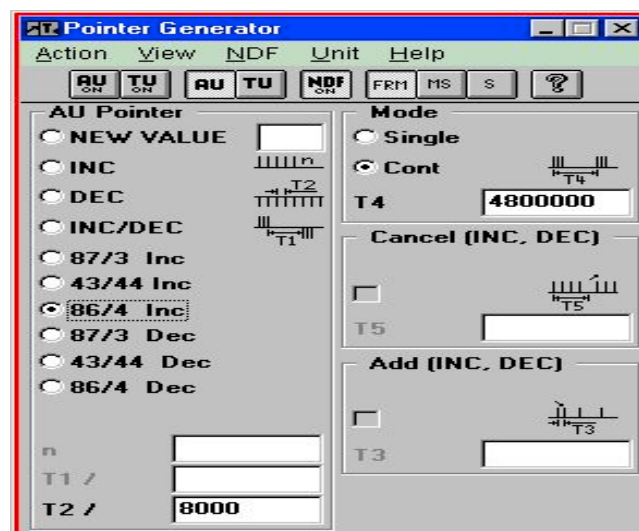

Fig.4 Pointer Generator Window
- Open the “Pointer Generator” window by clicking on the VI in Application Manager. Pointer Generator window appears as shown in fig.4